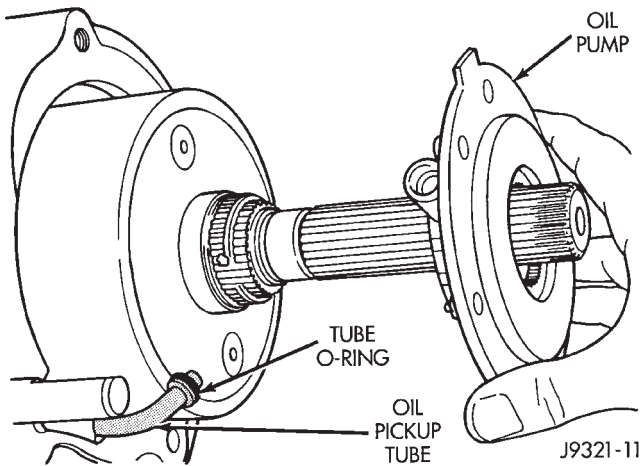

Fig. 89 Installing Oil Pump
(1) Install oil pump (Fig. 89).